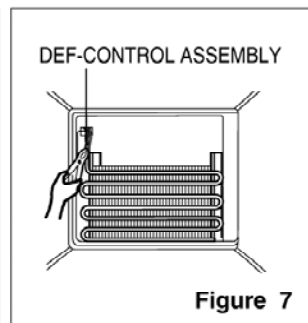

Figure 7
2. Separate the connector connected with the Defrost Control assembly and replace the Defrost Control assembly after cutting the Tie Wrap. (Figure 7)